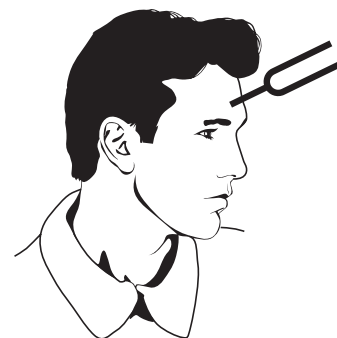

Figure 3.
10. Hold the fork to the middle of the subject's head as shown in Figure 3.